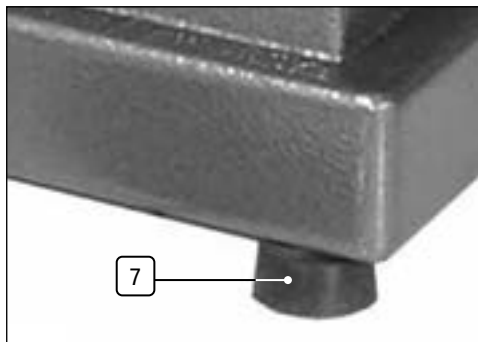

Fig. 1
6.1 Fitting the Rubber Feet (Fig.1)